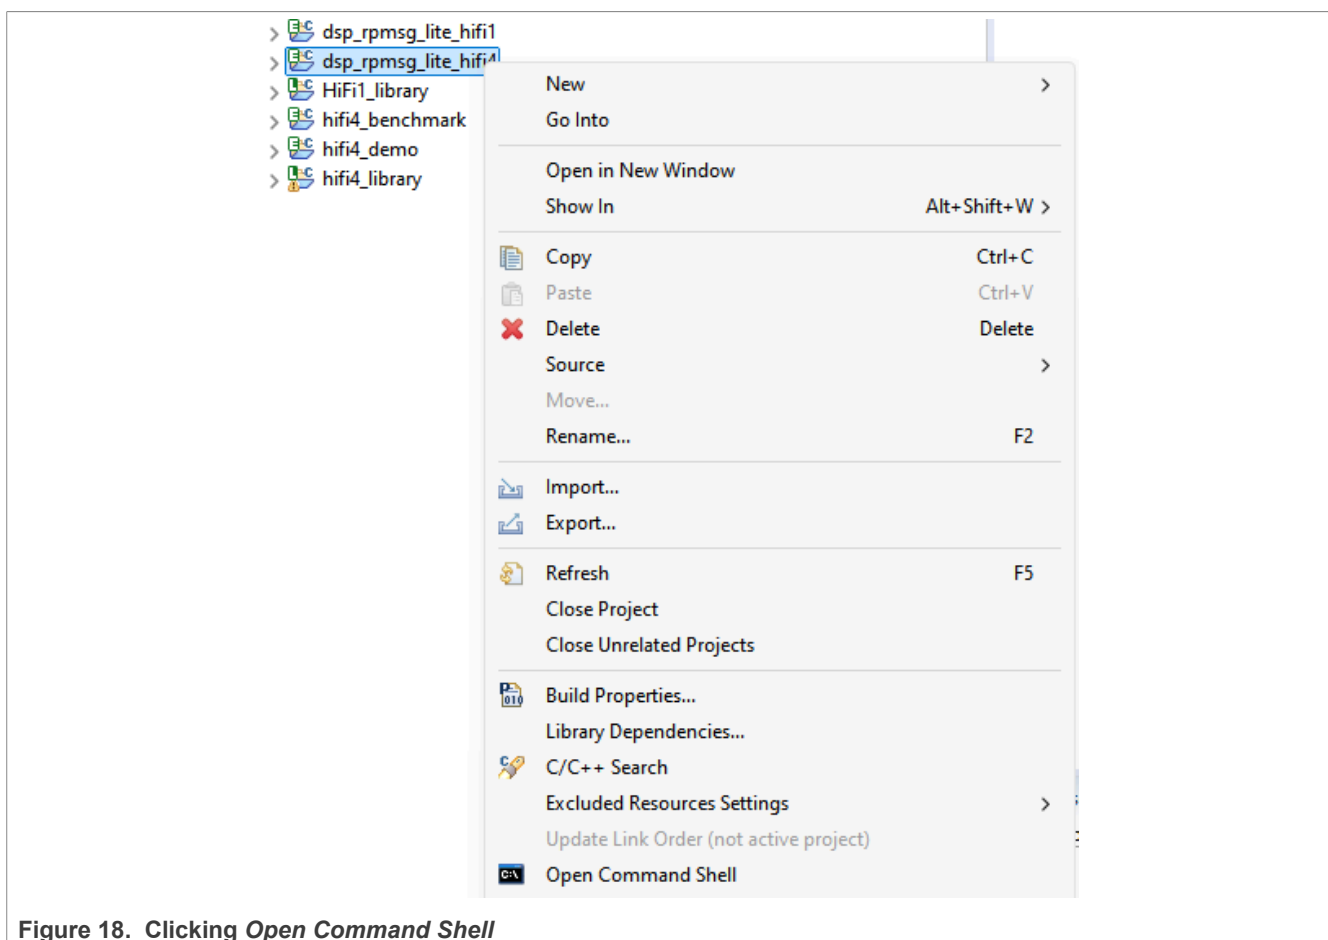

Figure 18. Clicking *Open Command Shell*
2. Right-click the project and select **Open Command Shell** as shown in Figure 18.